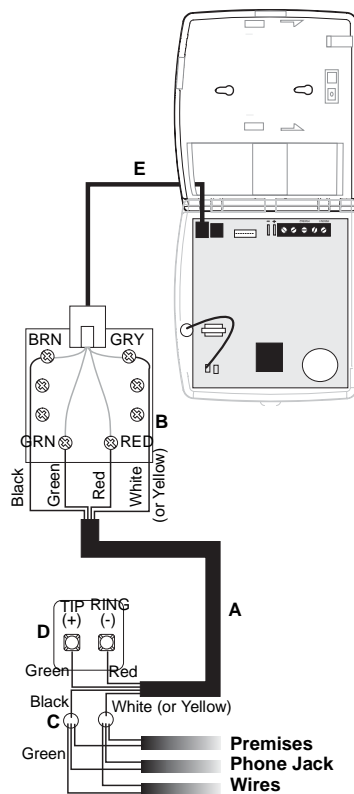

Figure 8. Full Line Seizure Wiring with an RJ-31X
1. Run a 4-conductor cable from the TELCO block to the RJ-31X (A in Figure 8).
2. Connect the 4-conductor cable wires to the RJ-31X (B in Figure 8).
3. Disconnect the Green and Red premises phone jack wires from the TELCO block and splice them to the 4-conductor cable Black and White (or Yellow) wires (C in Figure 8). Use weatherproof wire connectors for these splices.
4. Connect the 4-conductor cable Green and Red wires to the TELCO block TIP (+) and Red to RING (-) posts (D in Figure 8).